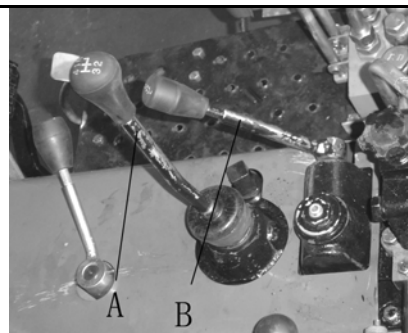

Figure 2-19 Differential Operation (20XT)
- Step on the clutch pedal and operate the auxiliary gear shift lever (B). Push down from the neutral position; low shift, L. If lifting up use the high shift, H.
- Figure 2-19 Shifting the Tractor
- Step on the clutch pedal, push forward on the main shift lever (A) from the neutral position. Shift 1: pull backward. Shift 2: move to the left from neutral and then pull backward. Shift 3: push forward. Shift 4: move to the right from neutral and then push forward. Reverse gear shift (R).